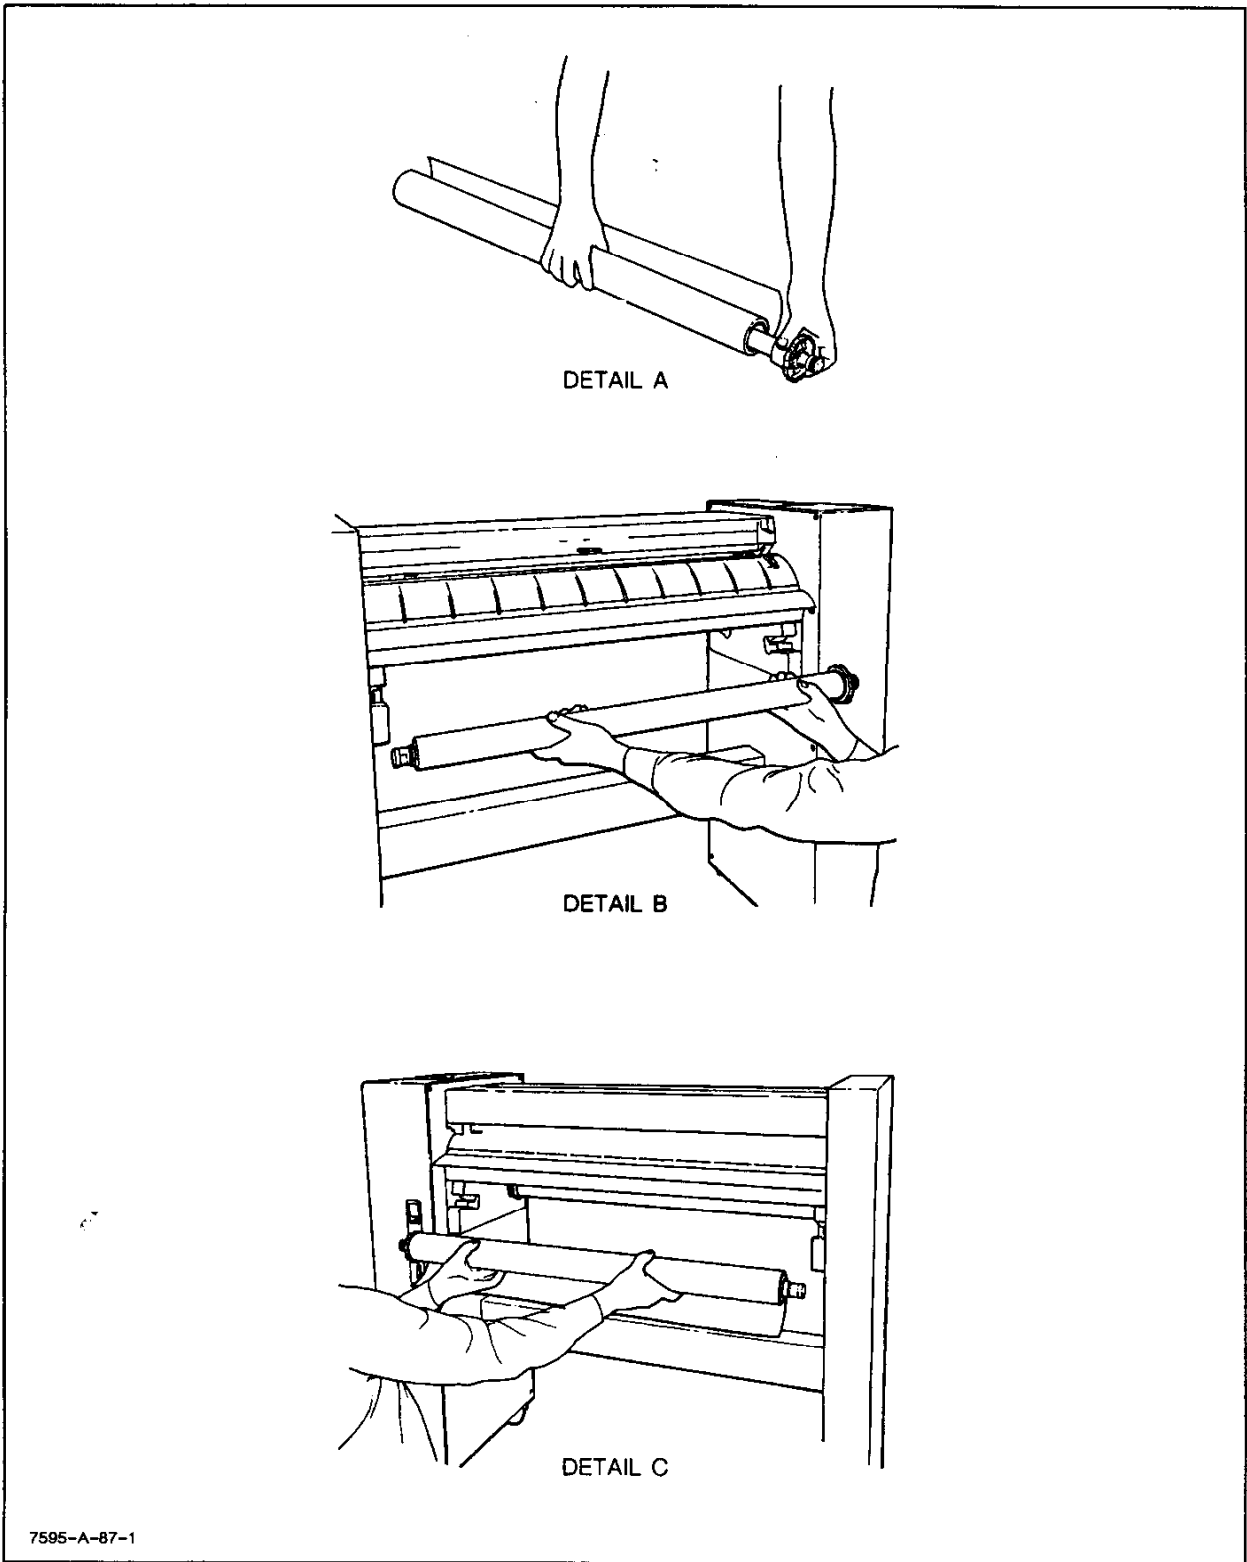

Figure 3-7. Loading Roll Paper
- b. Slide the spindle into a roll of paper as shown in Figure 3-7, Detail A.
- g. Load the take-up spool into the front of the plotter, inserting its slotted end into the right module. See Figure 3-7, Detail B.
- h. Load the spool of paper into the rear of the plotter, inserting its slotted end into the left module. See Figure 3-7, Detail C.